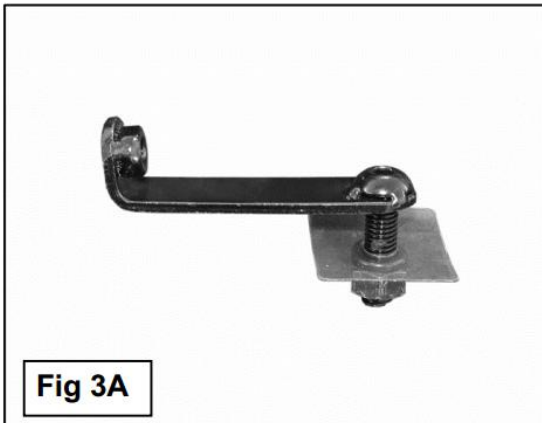

Fig 3A
2. Select (1) 10mm L-Bolt/Nut Plate, **(Figure 3A)**. Insert the bent end with the 8mm nut into the hole in the bottom of the floor panel, **(Figure 3B)**. Line up the hex nut with the hole in the side of the floor panel. Thread (1) 10mm Plastic Retainer onto the 10mm Bolt end of the Bolt/Nut Plate, **(Figure 3B)**. **NOTE:** The Plastic Retainer is provided to help hold the Bolt/Nut Plate in position during Bracket installation.